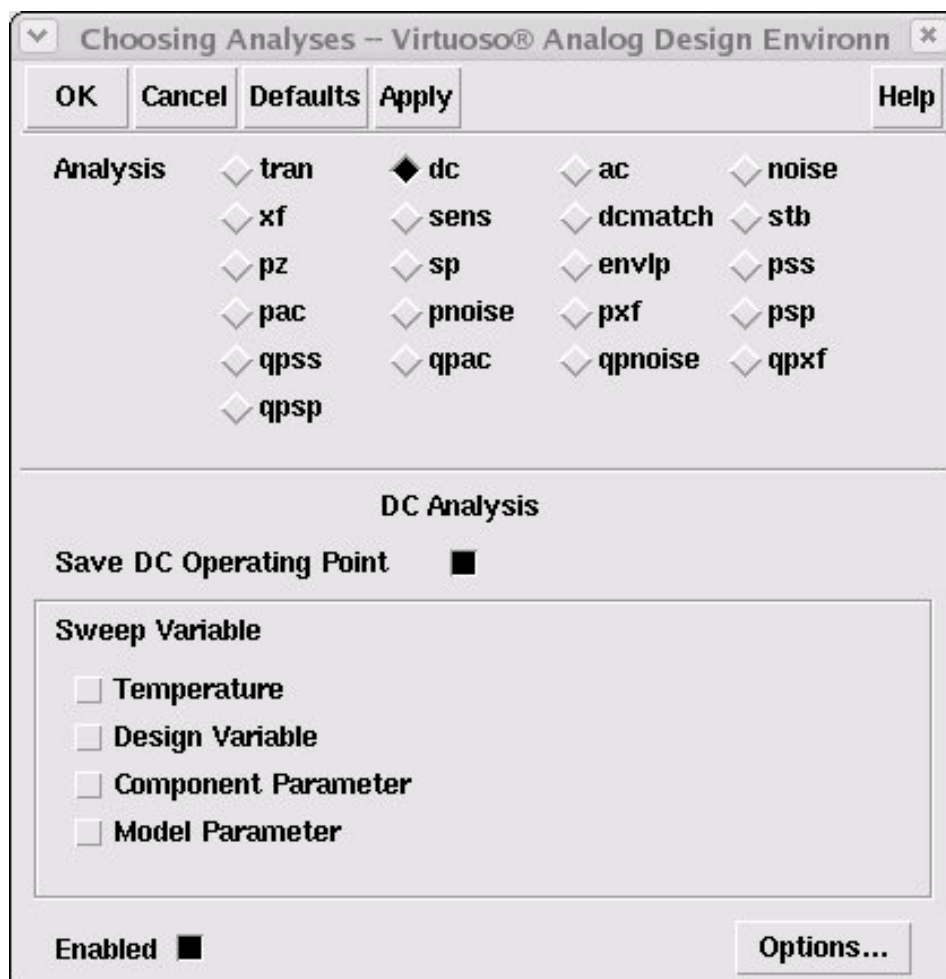

Figure 17: DC Analysis window.
- [4] *In the Choosing Analyses window (Figure 17) click on DC.